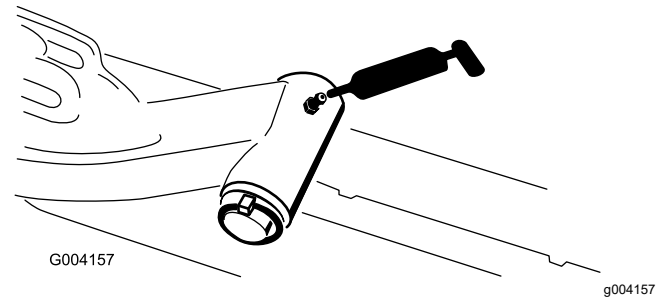

Figure 76
- Lift-arm-pivot shaft (1 each) (Figure 76)